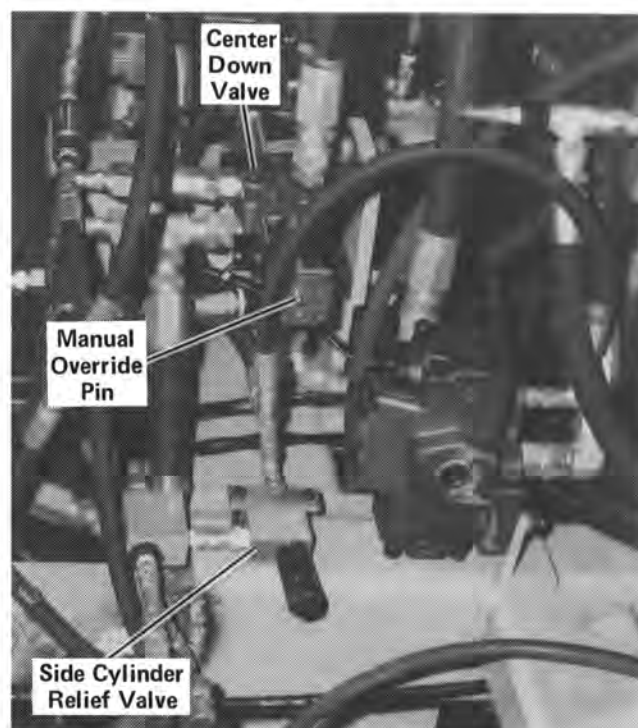

Figure 48
2. Loosen the locknut on the side cylinder relief valve and turn the adjusting screw outward (counterclockwise). See Figure 48.
3. With the engine at full RPM, manually extend the gager center cylinder by pushing the manual override pin on the center down valve until it is completely retracted. See Figure 48.
2. Loosen the locknut on the side cylinder relief valve and turn the adjusting screw completely inward (clockwise). See Figure 48.